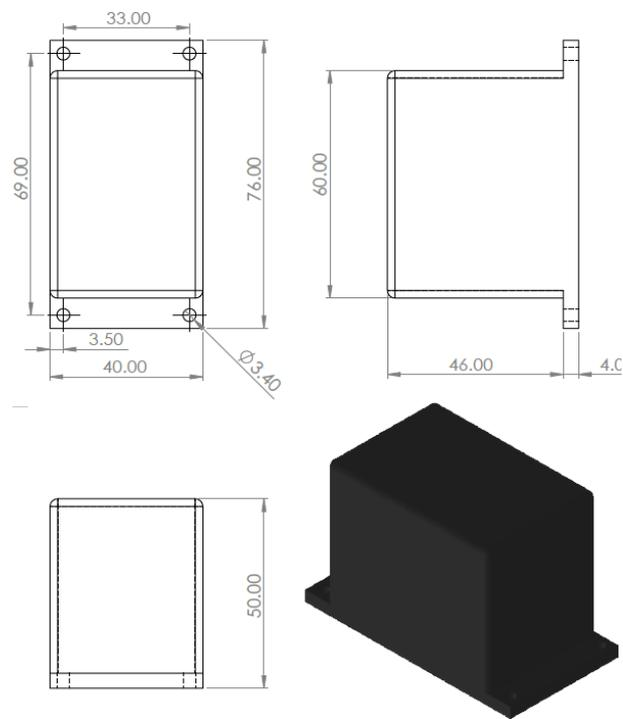

Figure 3.2: Measuring box dimensions. All dimensions are presented in mm.
6. The measurement equipment can be seen in Figure 3.2, where the dimensions are explicitly stated. The contestants shall use the presented fixation points to accommodate this payload to the aircraft structure. Sufficient demonstration shall be given of this capability within the Engineering Design Report.